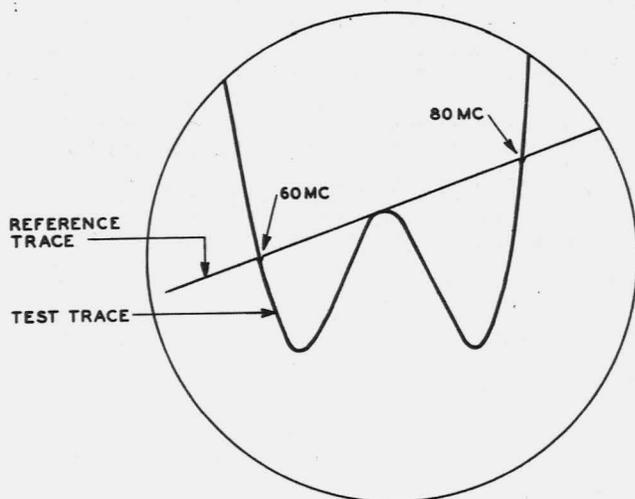

Fig. 5 - IF Impedance Test -
- (4) If the return loss for the impedance under test fails to meet the requirement, adjustment of the input or output transformer network constants will have to be made. The various requirements and adjustments are given below. Fig. 5 shows a typical scope presentation of an input or output return loss characteristic after final adjustments have been made. The return loss requirement is based on the smallest value of return loss in the 60-80 mc
frequency band. Where the test trace lies below the reference trace the return loss is more than (50 - A1) db. The shape of the return loss characteristic shown in Fig. 5 is not typical of that obtained when testing at the monitor jacks of the switching amplifier.